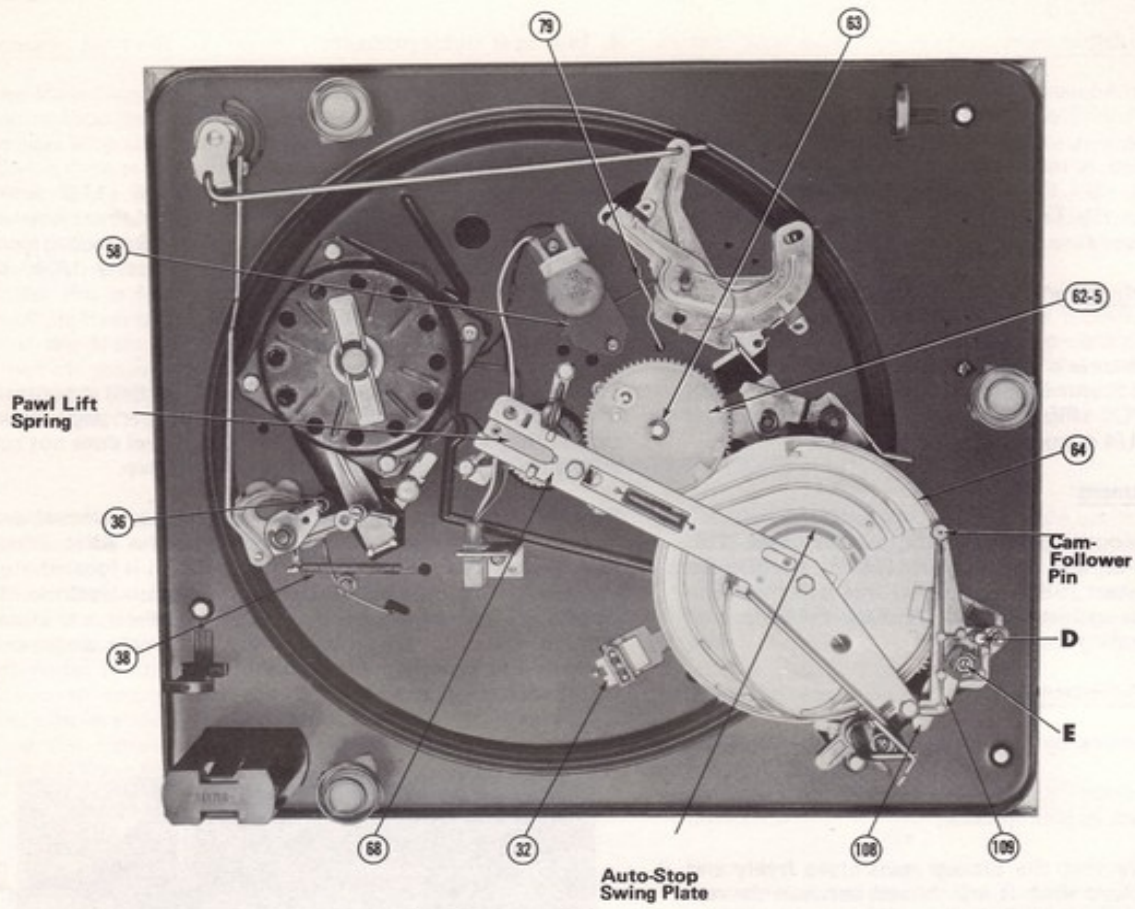

Figure 2 -- Bottom View of Baseplate
2. Cam-Follower Pin is touching bottom of Main Cam Gear (64).
Determine whether or not the Cam-Follower Pin on the Feed Lever Assembly (109) is touching the cam surface when it is in the "Play recess" area of the cam. The pin is correctly positioned when there is approximately 1/32" clearance between the pin and surface of the Main Cam. To obtain the correct clearance rotate the Feed Lever Adjustment Screw (109-1). See adjustment "D" (Figure 2).
The position of the Play Adjustment Screw (113) determines the vertical "play" between the Vertical Pivot Bracket (106) and the Pivot Base Bracket (108). Set adjustment screw "E" (Figure 2) to provide approximately 1/64" of vertical travel between these parts.